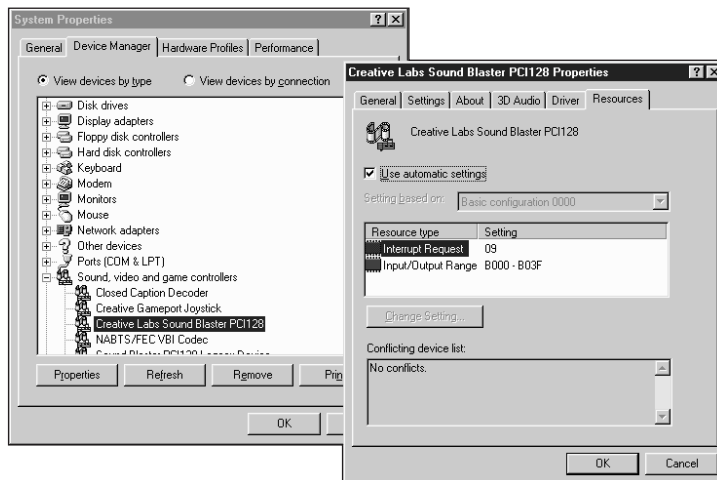

Figure 10-14 Device Manager shows the sound card installed and the resources it is using
2. Select the **Device Manager** tab. Figure 10-14 shows the sound card installed.